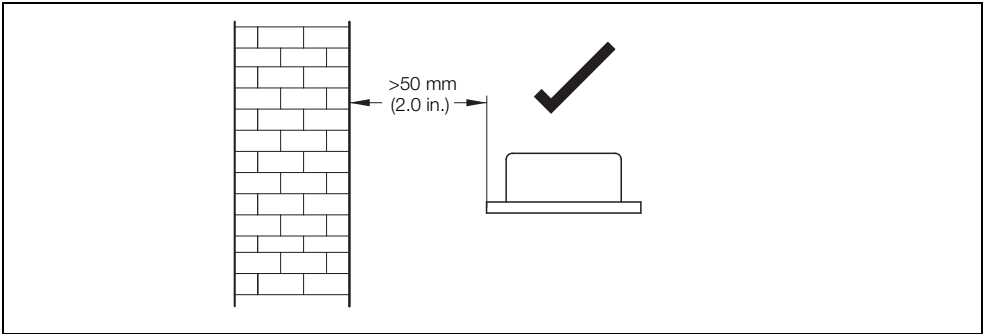

Fig. 2.23 GSM Antenna Installation
- Do not mount the antenna closer than 50 mm (2 in.) to any solid wall or surface – see Fig. 2.23.